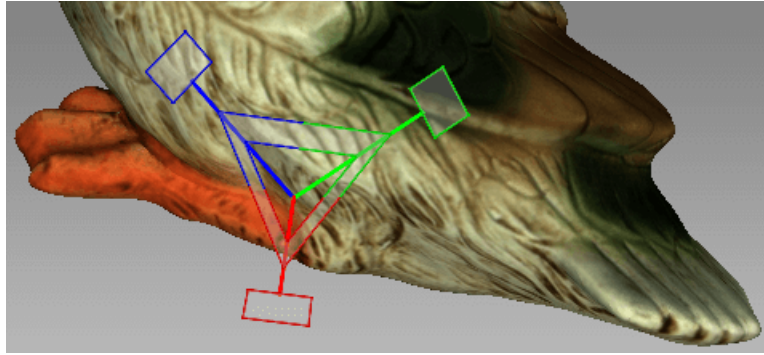

Figure 168: Scaling control
- Drag the origin of the control (Figure 168) or either of its round ends in the *3D View* window.